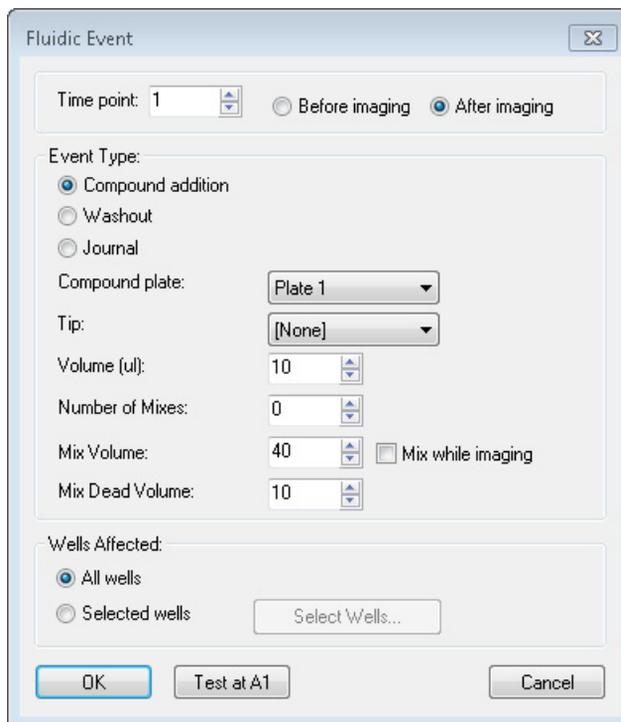

Figure 2-15: Fluidic Event dialog Compound addition event
- ◆ **Compound addition:** A Compound addition event, shown in Figure 2-15 on page 46, draws liquid from the compound plate and adds it to the sample plate. There is a one-to-one mapping between the wells on the compound plate and the sample plate. That is, compound is removed from a well on the compound plate and applied to the well in the same position on the sample plate (for example, A1 to A1, A2 to A2). When you are running mixes that consist of more than a single cycle, **Mix Dead Volume** specifies an amount of fluid that is to remain in the tip and not to be returned to the well during intermediate repeated cycles of draws and dispense. For more information about compound addition settings, see the MetaXpress Software application help (press F1 while viewing the dialog).